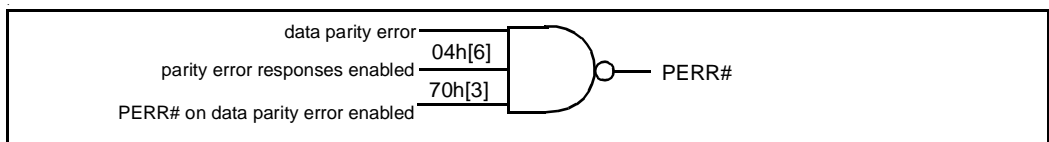
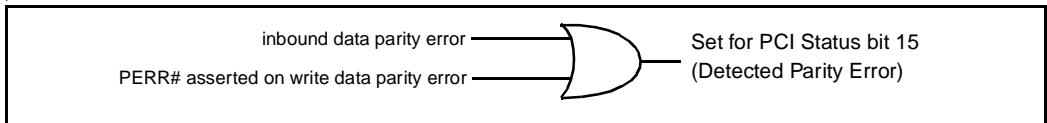
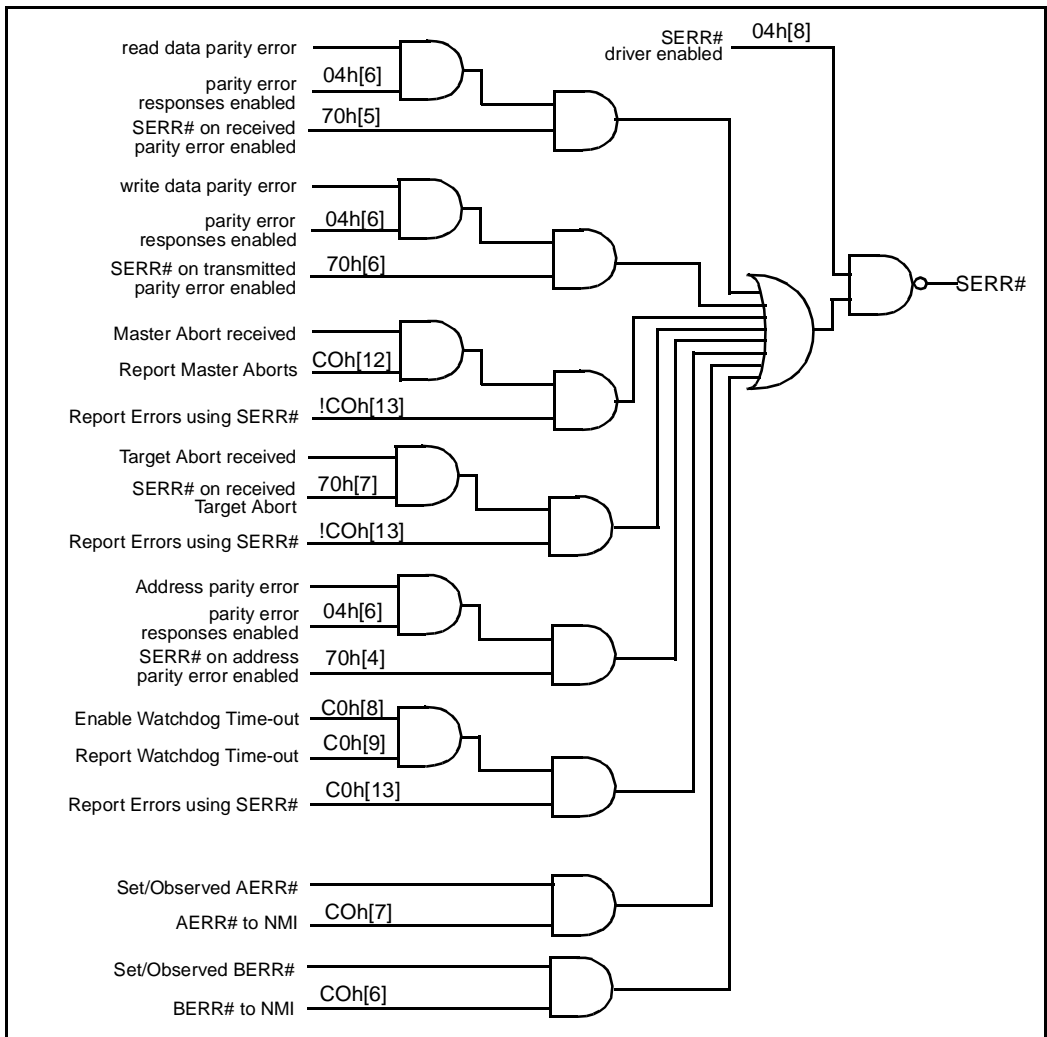

Figure 3. Logic Diagram of the Assertion of PERR#
Figure 4. Logic Diagram of the Setting of the Detected Parity Error Bit0
Figure 5. Logic Diagram of the Assertion of SERR#
**Data Parity Errors.** As a PCI bus master, the PB checks the data parity provided during read data cycles and monitors PERR# during write data cycles. The errors are logged by setting the appropriate status bits. If a parity error is detected, the Detected Parity Error bit (bit 15) in the PCISTS Register is set. To distinguish between read data parity errors and write data parity errors, the appropriate bit (bit 6 for writes, bit 5 for reads) is set in the ERRSTS Register. Errors are reported via the SERR# and PERR# signals. The conditions causing the assertion of SERR# due to data parity errors are summarized in Figure 5. The conditions causing the assertion of PERR# and the Detected Parity Error Status bit are summarized in Figure 3 and Figure 4. Note that for read data parity errors, the PB returns the corrupted data (with good parity/ECC) as the CPU read response data. For write data parity errors, the corrupted data has already been delivered to the target; it is not retried by the PB.